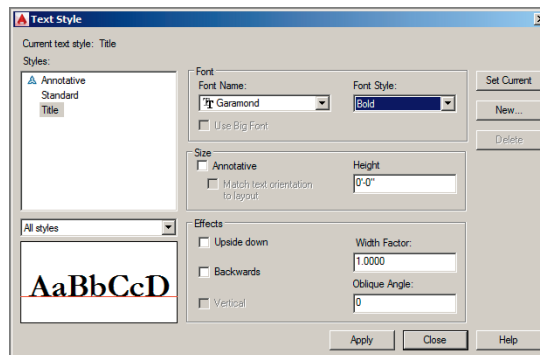

FIGURE 10.2 Configuring the Title style
3. Open the **Font Name** drop-down and select **Garamond**. The symbol next to the font name indicates this is a TrueType font. Set **Font Style** to **Bold**, and deselect **Annotative** if it is checked (see Figure 10.2). Click the **Apply** button.